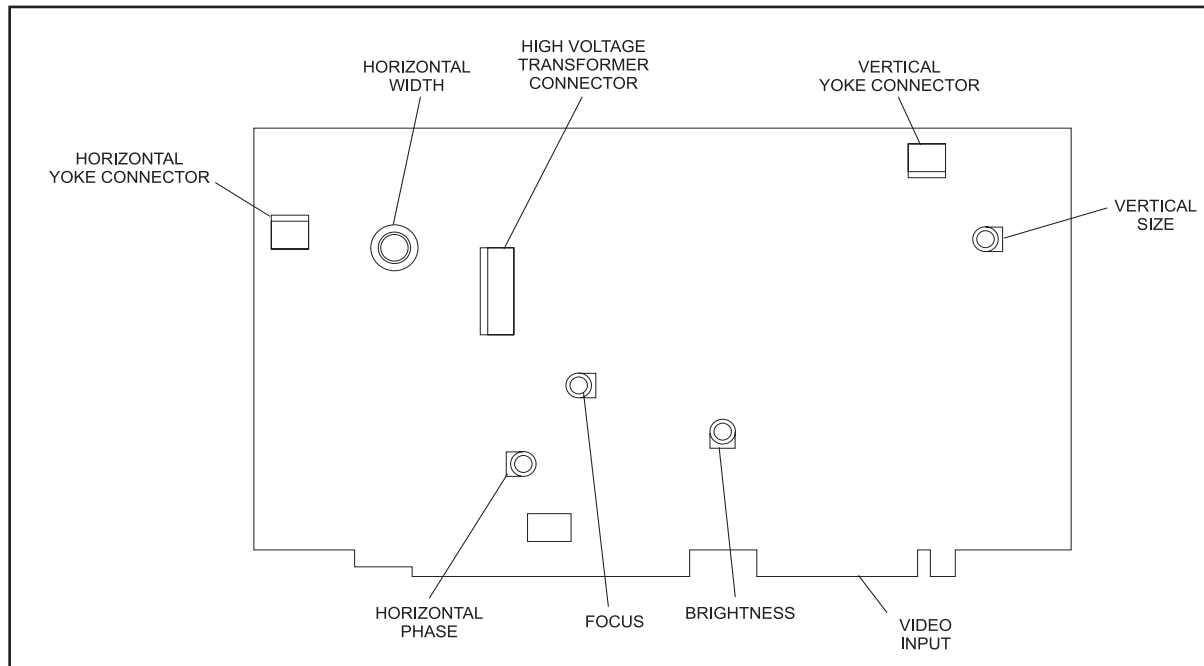

Figure 17. CRT Adjustment
3. Attach the black lead of your digital voltmeter to the terminal labeled "-Out". Attach the red lead to the terminal labeled "+Out". (Figure 17)
4. Turn both the voltage and current adjustment potentiometers fully counterclockwise and then clockwise 1/4 turn. (Figure 17) (These adjustments are labeled V ADJ and either I LIM or O.C.P.)
1. Slowly adjust V ADJ until a reading of 5.7VDC \pm 1V is displayed on the meter (5.6VDC to 5.8VDC). If this voltage cannot be reached, disconnect 120VAC power and turn I LIM (or O.C.P.) clockwise an additional 1/4 turn. (Figure 17.)
The 12" B & W CRT Driver PCB is responsible for; receiving scorer video from the CPU PCB, conditioning it, and applying it to the 12" picture tube. The Drive PCB contains all the necessary circuitry and controls to adjust the size and brightness of the video displayed on the CRT. Adjustment includes horizontal width, vertical size, brightness, and focus. Refer to *Figure 17*.